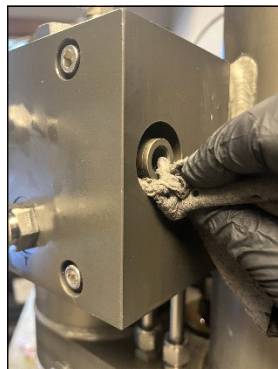

Figure 12. Clean Outlet Valve Cavity
2. Inspect the Outlet Valve cavity on the HydrX Manifold for debris (see Figure 12). Any debris should be removed from the manifold at this time.